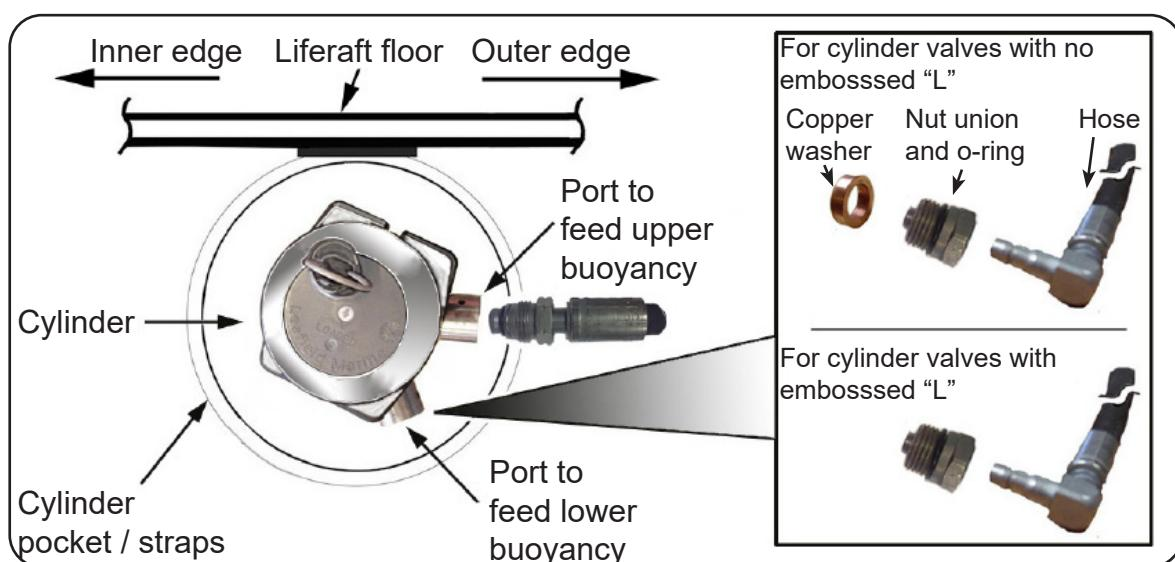

FIGURE A9-2
- 2.4 Upturn the edge of the liferaft to reveal the cylinder stowage pocket/straps. Refer to FIGURE A9-2. Slide the cylinder into the cylinder stowage arrangement, taking care not to trap the righting strap.
The cylinder must be orientated, so that the upper buoyancy operating head outlet runs parallel with the base of the liferaft while the other runs perpendicular towards the water. Refer to FIGURE A9-2.
- 2.7 Connect up each inflation hose. Refer to **Appendix 14** for guidance on inspection the inflation hose. Refer to FIGURE A9-2. Torque the hose connections as stated in Chapter 1, DESCRIPTION AND DATA TABLE 101.